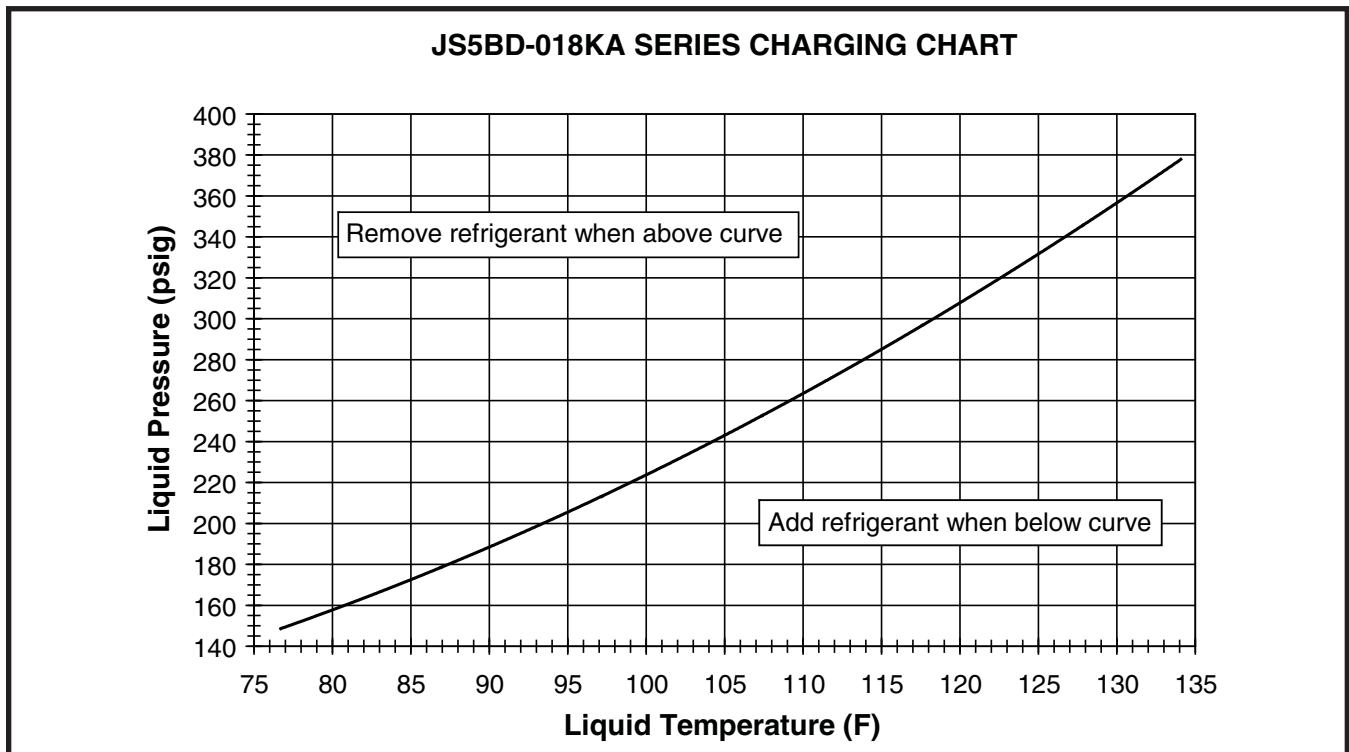

Figure 5. Charging Chart for 1.5 Ton Units
- Refrigerant charging charts are applicable only to matched assemblies of NORDYNE equipment and listed airflows for the indoor coil. Refer to Figures 5 - 11 (Pages 10 - 13) for correct system charging.